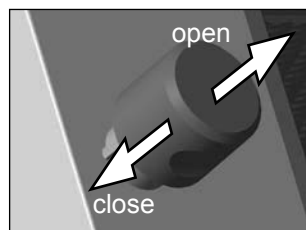

Fig. 11 Opening and closing the doors
- ▶ To open the doors, pull out the knobs (Fig. 11).